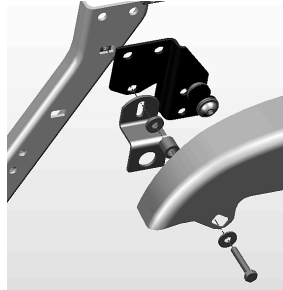
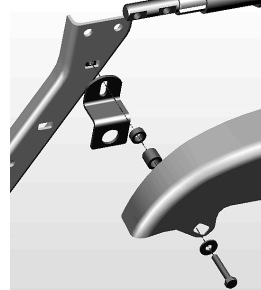

Figure 7
Figure 8
15. Place a 1/4" washer [6] on the 1/4" x 1-1/2" hex bolt [7] and thread the bolt through the square nut clipped on the bag support arm [11] as shown. Use Figure 7 for detachable backrest and Figure 8 for stock configuration.